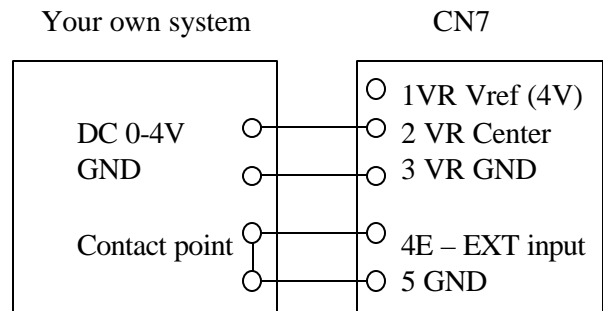

Figure 6
- If using an analog signal, the speed can be changed from 0 to 100% by inputting 0-4V to 2P and 3P (see Figure 6).